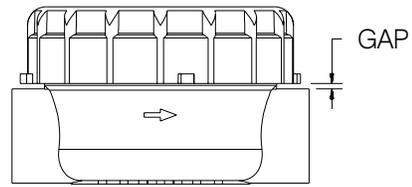

Figure 3
4. Thread on meter cap until hand tight. To check cap tightness, the gap shown should be the thickness of two nickels or smaller (.150") (See Figure 3).